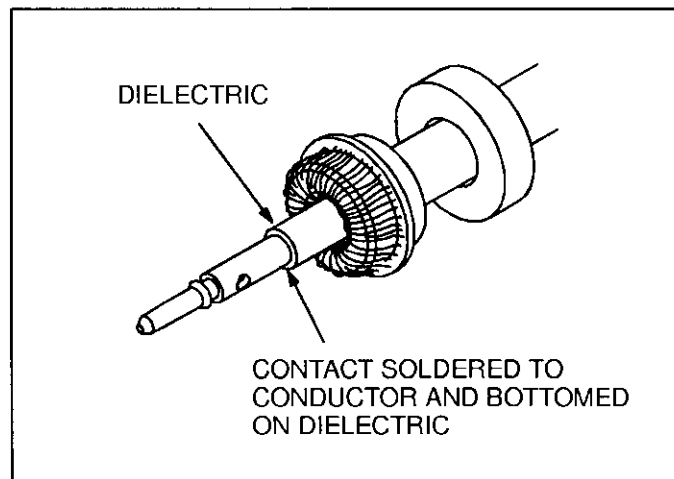

Fig. 6
5. Solder contact to conductor (using standard soldering techniques), making sure contact is bottomed on cable dielectric. See Figure 6.